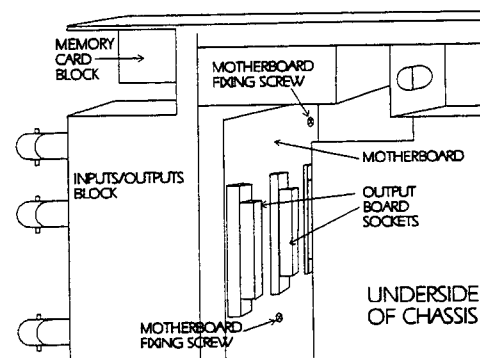

**Figure 5-23. Memory Card Connector board Side Fixings**
3. Remove 2 screws securing the Memory Card Block to the side of the chassis Figure 5-23 shows the location of these screws